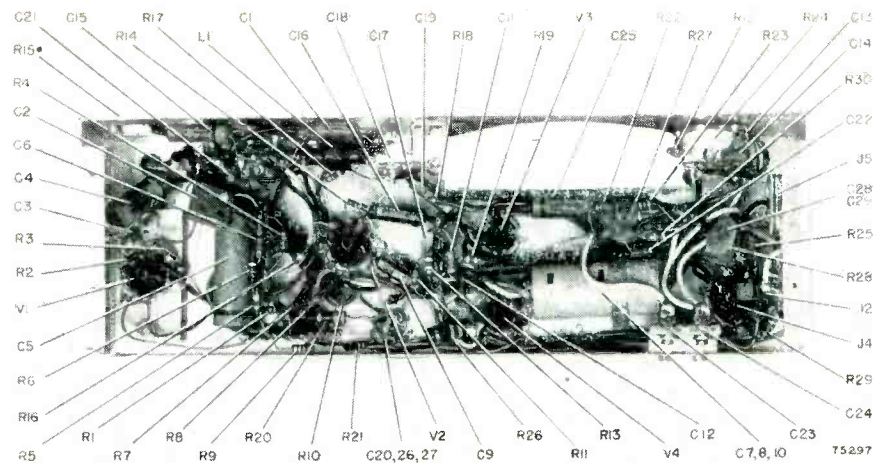

Fig. 5 — Bottom view of amplifier chassis showing locations of various components which may be identified by referring to Fig. 6.
means of the 2 trimmer capacitors, C23 and C24, Figs. 5 and 6, one for each indicator. These trimmers are accessible after the recorder mechanism is removed from the cabinet and the amplifier chassis bottom cover is removed.
3. Refer to Fig. 5 and connect the *vtvm* probe to the high side of the 3.3 ohms resistor, R25.
5. Adjust the "normal" indicator trimmer C23, refer to Figs. 5 and 6, fully clockwise and then turn slowly counterclockwise until the "normal" neon bulb barely lights.
7. Adjust the "overload" indicator trimmer C24, Figs. 5 and 6, in the same